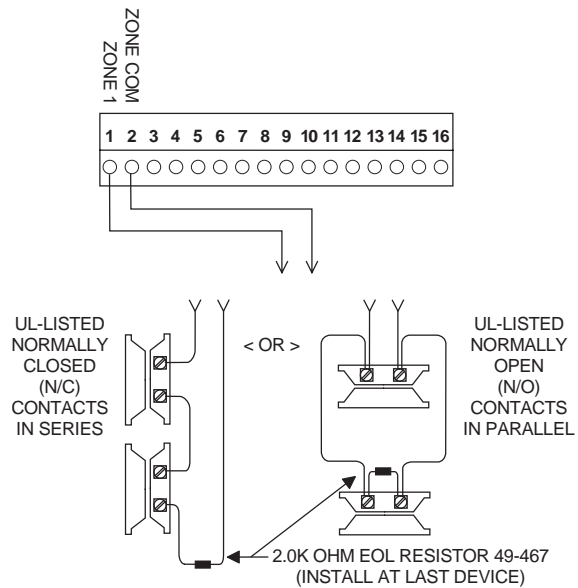

Figure 8. Connecting N/C and N/O Intrusion Circuits to the Module
1. Figure 8 shows an example of how to connect up to eight normally closed (N/C) or normally open (N/O) intrusion circuits to the module.
3. Connect the normally closed reed switch (in series with a 2.0K ohm EOL resistor) to the module ZONE 1 (1) and ZONE COMMON (2) terminals as shown in Figure 8. The resistor should be located at the reed switch inside the module housing.